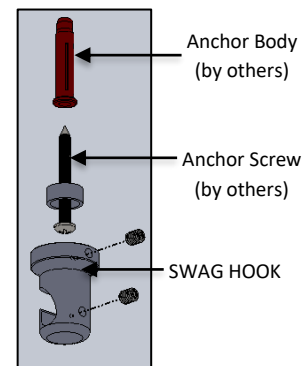

FIG. 10 – SWAG HOOK INSTALLATION
4. Attach the provided SWAG HOOK to the ceiling with anchors (by others) as shown in FIG. 10. See the final page of these instructions for several examples of how the hooks can be laid out. Carefully unroll GLOWSTICK BODY CORDS. Avoid kinking the FIXTURE CORD, kinking the CORD will damage it.